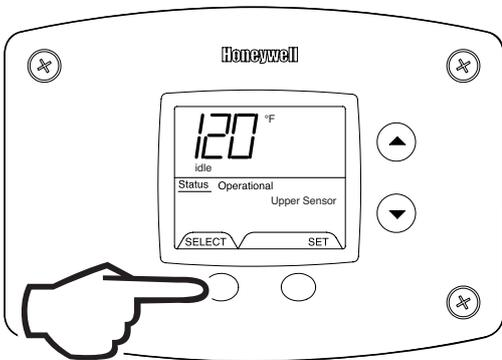

Fig. 57
- For water heaters using two temperature sensors, pressing the 'Select' button again displays the Upper Sensor temperature reading. 'Upper Sensor' will be displayed in the lower right side of the status window of the water heater display (Fig. 57).